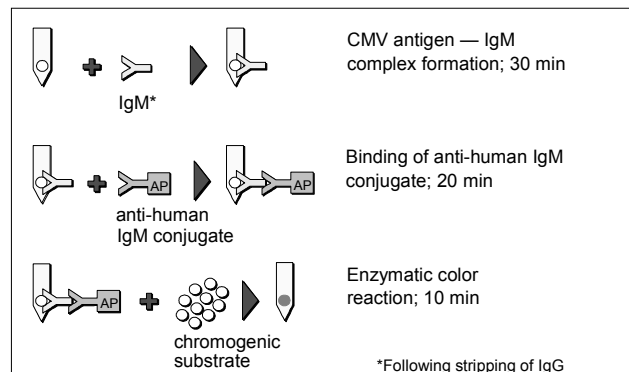

Figure 1. Principle of the Test
At the outset of the test, serum or plasma specimens are pretreated with anti-human IgG (stripping), in order to prevent interference's as a result of competition by anti-CMV IgG, and by rheumatoid factor. Pretreated specimens are further incubated in the wells of row A of the Developing Plate. The Card is then inserted in the wells of row A. Anti-CMV IgM, if present in the specimens, will specifically bind to the CMV antigens on the lower spots on the teeth of the Card (Figure 1). Unbound components are washed away in row B. In row C, the IgM captured on the teeth and the human IgM on the upper spots (Internal Control), will react with anti-human IgM antibodies labeled with alkaline phosphatase (AP). In the next two rows (C and D), unbound components are removed by washing. In row F, the bound alkaline phosphatase will react with chromogenic substrate. The results are visible as gray-blue spots on the surface of the teeth of the Card.